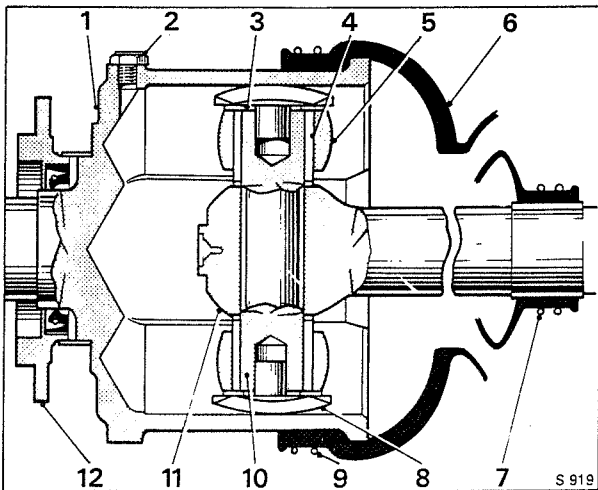

Fig. J14 Half-shaft ball and trunnion joint
5. Remove the trunnion buttons, adjusting washers, bearing outer races and needle rollers from the trunnion pin (see Fig. J14). Keep each assembly separate and note from which side of the pin they have been removed.
5. Fit the inner washers and the needle roller assemblies to each side of the trunnion pin then, fit the trunnion buttons together with their correctly selected adjusting washers to the pin ends (see Fig. J14).